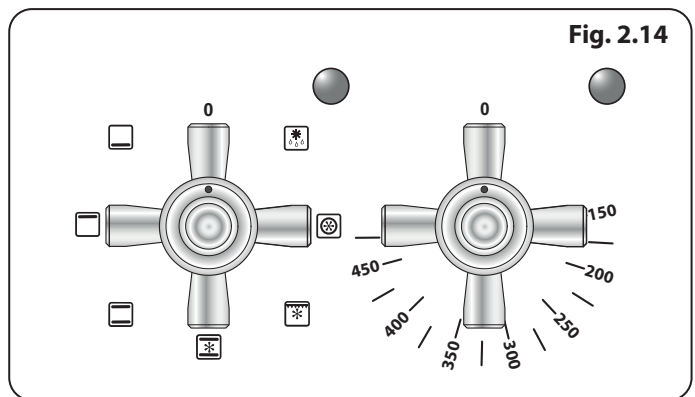

Fig. 2.14
1. The multi-function oven has two controls: a function selector and a temperature setting knob (**Fig. 2.14**).